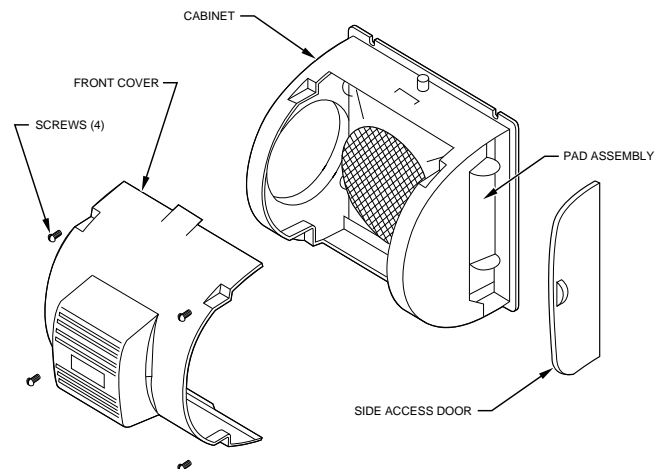

Fig. 9 — Model HUMCCSFP1016-A--
- On a Model HUMCCSFP humidifier, open the side door or the front cover. If the front cover is opened, hold the pad assembly in place. Check to see if water is flowing from the solenoid valve into the distributor pan. (See Fig. 9.)